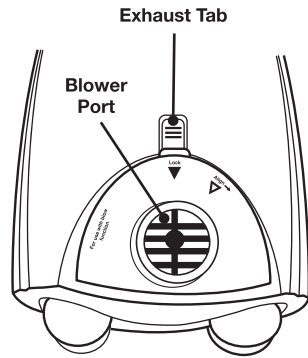

Fig 14
3. To place the blower port into the exhaust outlet, align the lower tabs on the blower port with the slots on the exhaust. Pull up on the exhaust tab and push the top of the blower port until it snaps into place. (Fig.14)